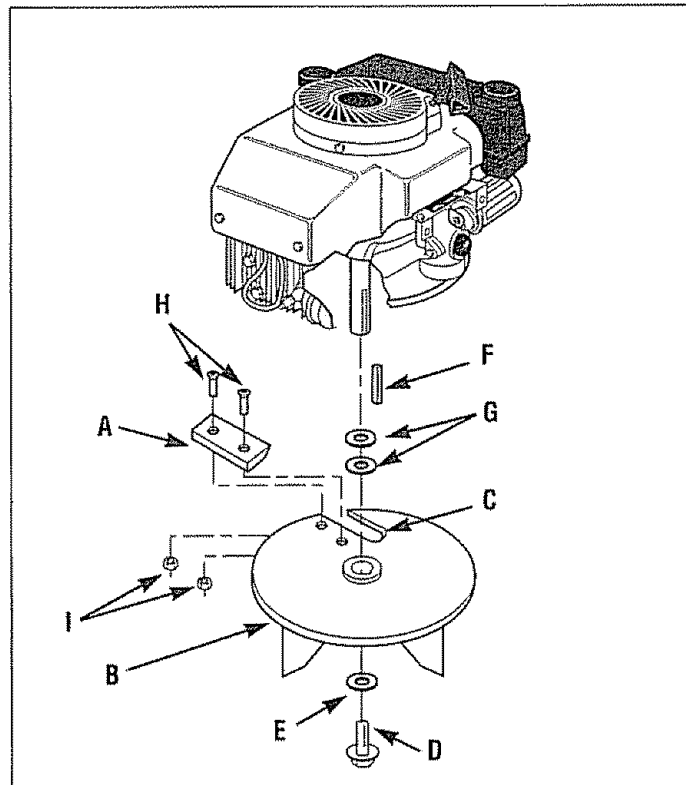

Figure 33: Chipper cutting blade removal/replacement.
Over time, the chipper cutting blade edge (A in Figure 33 on Page 31) will dull. Sharpen or replace the blade when the chipper no longer cuts efficiently.
7. The chipper cutting blade (A in Figure 33) is mounted on the upper side of the flywheel assembly (B). AVOID CONTACT WITH THE BLADE AS IT IS EXTREMELY SHARP! To remove the blade, first remove the flywheel assembly as described below:
a. Rotate the flywheel assembly until the cutout (C) in the flywheel assembly is located below the chipper chute. To prevent the flywheel assembly from turning, place a 1/2" or thicker wood dowel down the chipper chute through the cutout. See Figure 33.
b. Using a box end 9/16" wrench, remove the bolt (D) and concave washer (E). Carefully slide the assembly off the crankshaft. Do not lose the key (F), or any shims (G). NOTE: Shims (if used) may be inside bore of flywheel assembly. See Figure 33.
8. With a 3/16" hex key (Allen) wrench and 1/2" box wrench, remove the two locknuts (I) and screws (H) that secure the blade to flywheel assembly. If necessary, first clean out the socket holes in the screw heads with a sharp nail or awl. See Figure 33.
11. Place key (F) in the engine crankshaft and re-install any shims (G). Align the keyway in the bore with the key on the crankshaft and slide the flywheel assembly into place.
12. Place the concave washer (E [dished-in side of washer faces flywheel assembly]) on the mounting bolt (D) and install the bolt in the crankshaft. Tighten securely (torque to 204 lbs-in). Remove the wood dowel from the chipper chute.